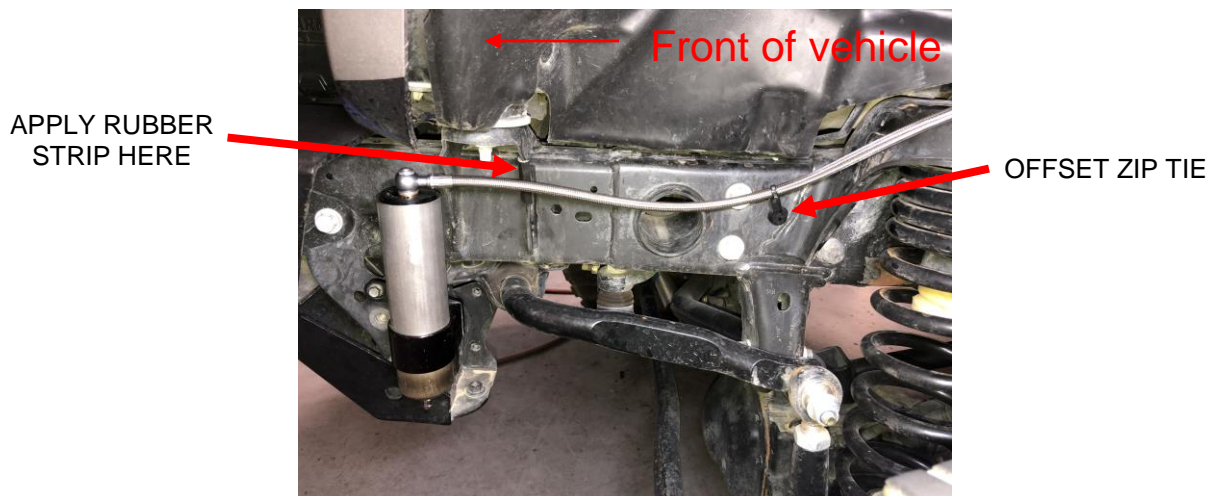

Figure 14 – Driver side
- Y. For the Driver side, route the hose as shown in Figure 14. Use the offset zip tie in the hole shown. Apply the rubber strip where shown.